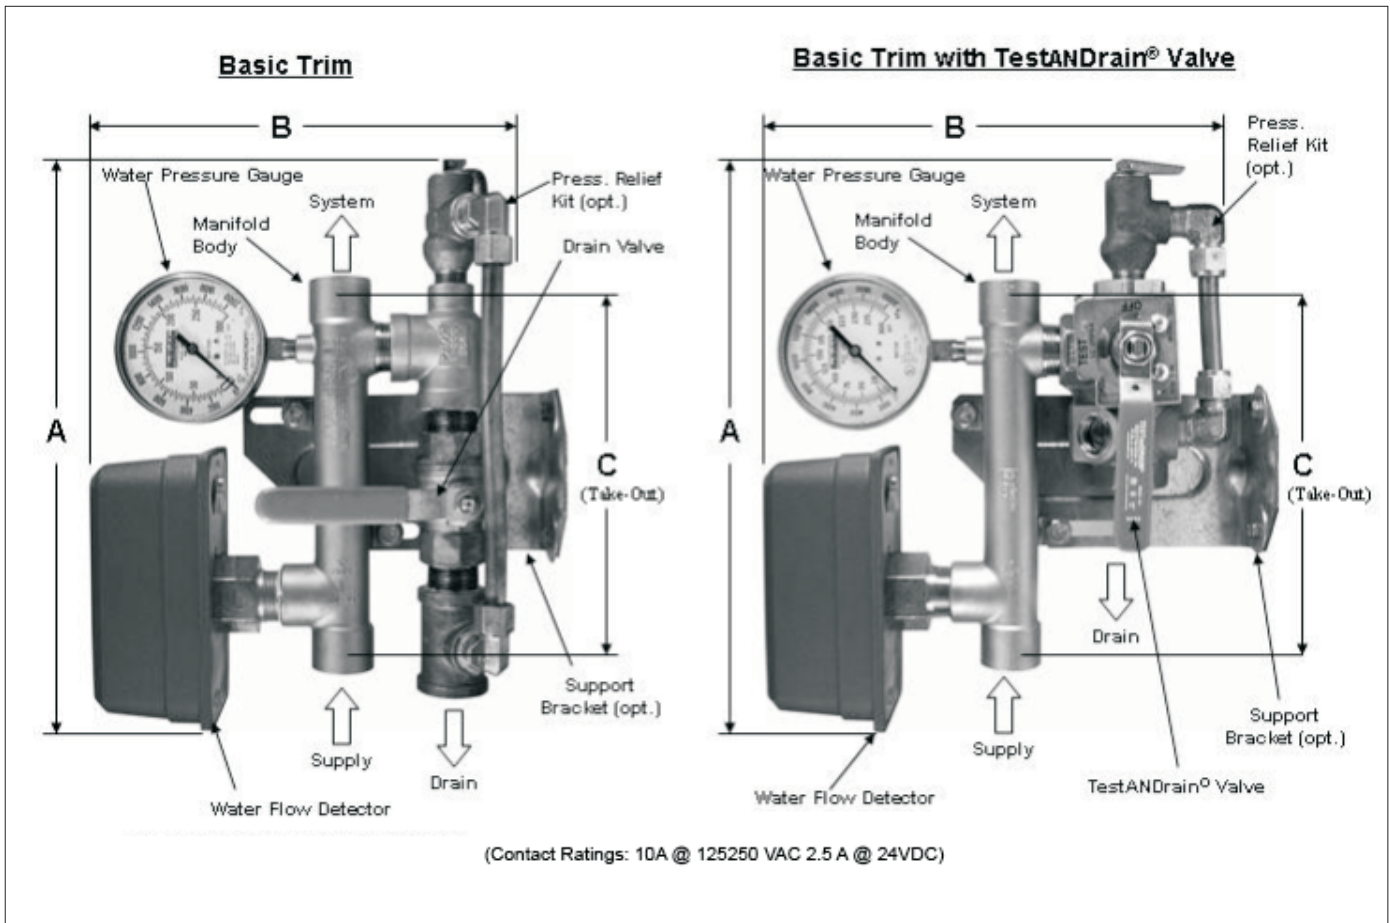

Fig. 5
- Support Bracket (to stud) (Figs. 5 & 6).